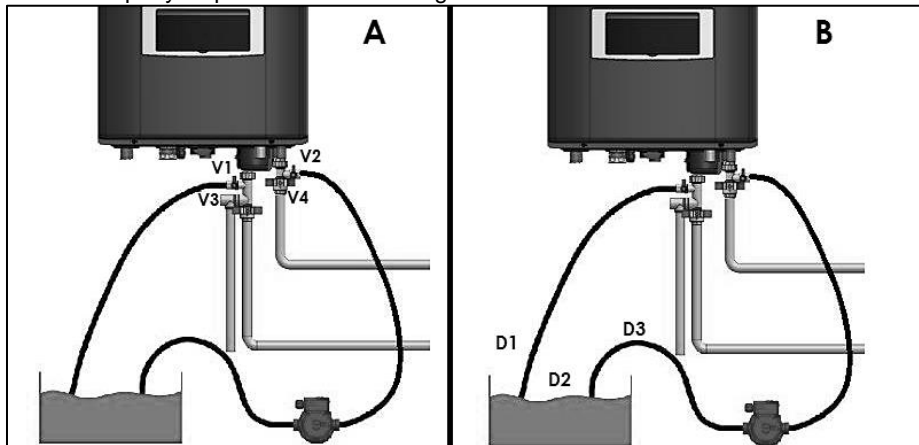

Figure 55 – A – Valve, and B – Hose Connection Details
2. Close the shutoff valves on both hot water outlet and cold water inlet lines (V1 and V2). See Figure 55-A.
3. Connect one hose (D1, Figure 55-B) to the valve (V3) and place the free end in a bucket. Connect one of the hoses (D3) to the circulation pump outlet and the cold water inlet line to valve V4. Connect the other hose (D2) to the circulation pump inlet and place the free end in the bucket.